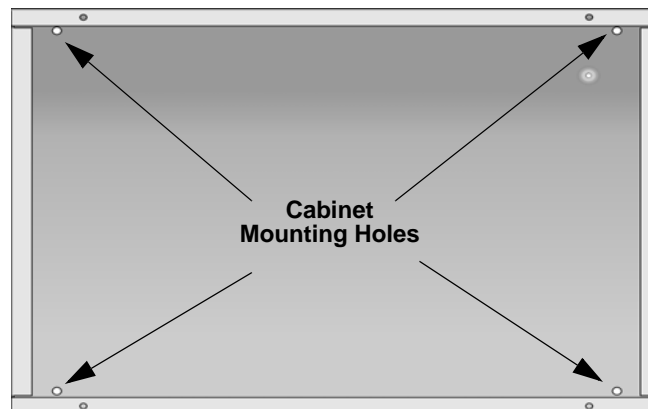

Figure 4-3 RBB Cabinet Mounting Holes
1. Mount the accessory cabinet. See Figure 4-3 for the four cabinet mounting holes.